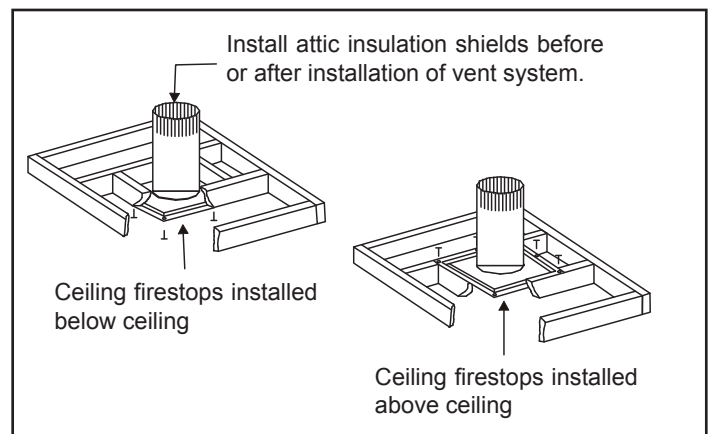

Figure 5.4 - Installing the Attic Shield
- The ceiling firestop may be installed above or below the ceiling joists when installed with an attic insulation shield. It must be under joists between floors that are not insulated. Refer to Figure 5.4.